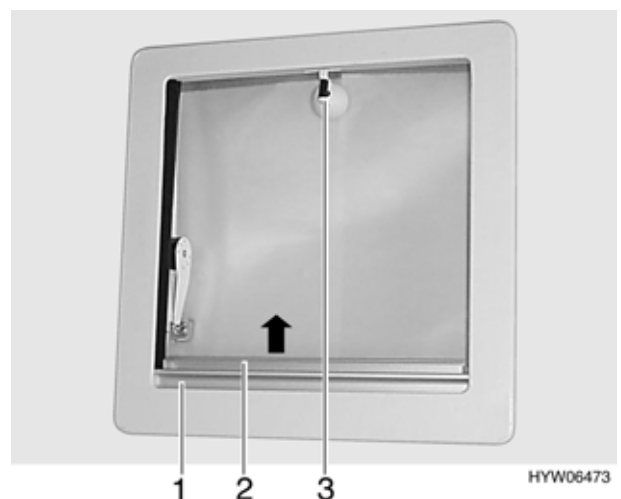

Fig. 55 Hinged skylight
- In order to open the skylight (Fig. 55,3), rotate the lever anticlockwise one quarter-turn and use lever to press the hinged skylight upwards.
- Turn lever (Fig. 55,3) a quarter-turn clockwise.
- Pull Roman shade (Fig. 55,1) in the direction indicated and release in the required position. The Roman shade will stay in that position.
- Pull insect screen (Fig. 55,2) in the direction indicated until it engages with the latch on the opposite side.